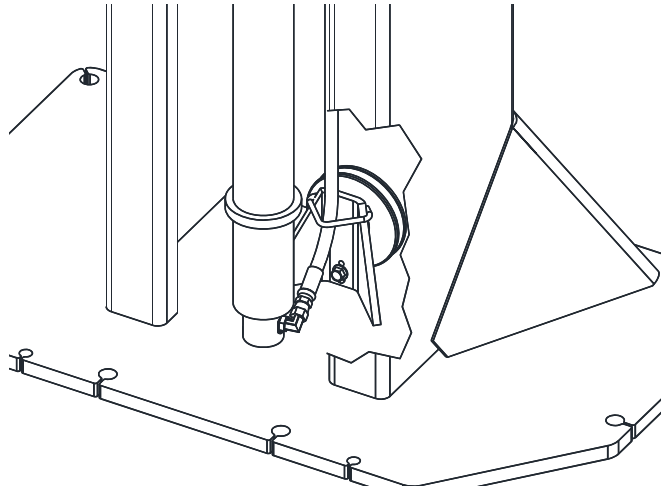

Fig. 13B-Hose Connection
- 23) Hoses should connect to cylinders with a 90 degree elbow rotated 25 degrees upward and be routed thru hose guide (**Fig. 13B**).